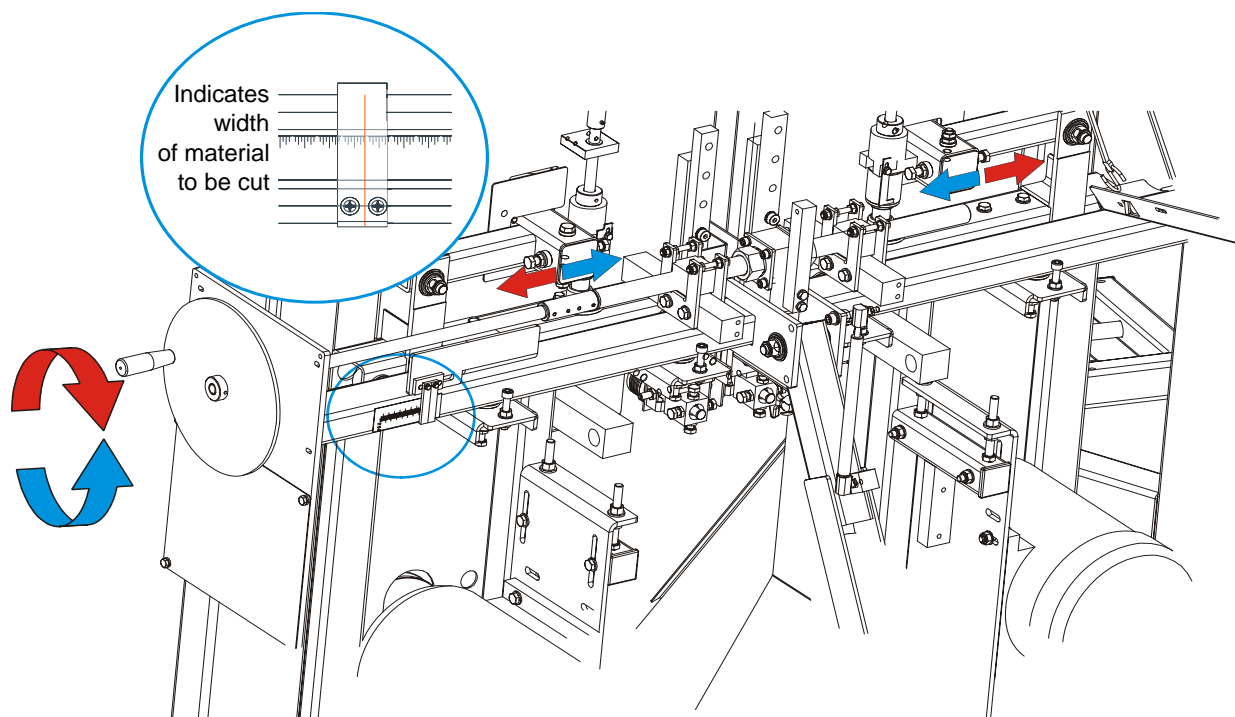

FIG. 2-9
**See Figure 2-9.** To move the saw heads in, turn the handle left. To move saw heads out, turn the handle right.